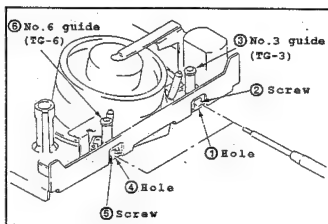

Fig.II-34
4-2 Tracking Adjustment (Fig.II-34)
- (1) Referring to the service manuals for each system, set it to the track shift made. (70 %)
- (2) Confirm that the waveform is flat. If not, turn No.3 and 6 guides to make it flat.
- (3) Tighten the screw ② of No.3 guide to lock it. At this time, confirm that the inlet side of waveform is not changed. (Fig.II-34)
- (4) Tighten the screw ⑤ of No.6 guide to lock it. At this time, confirm that the outlet side of waveform is not changed. (Fig.II-34)
*Note: Torque at Screws ②, ⑤: 200g/cm approx.